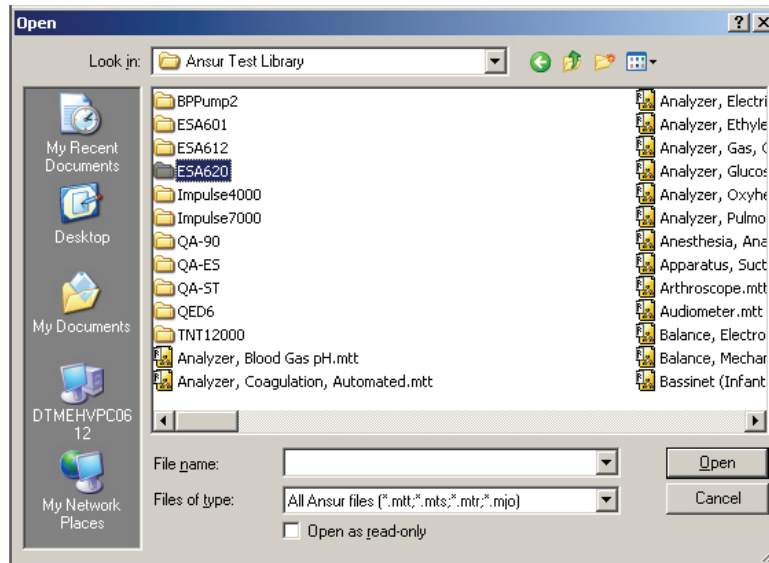

Figure 3-2. Browsing the Ansur Test Library
2. Browse to the folder where Ansur was installed and double-click the Ansur Test Library folder. See Figure 3-2. The normal location is C:\Program Files\Fluke but may have a different name depending on the operating system language.